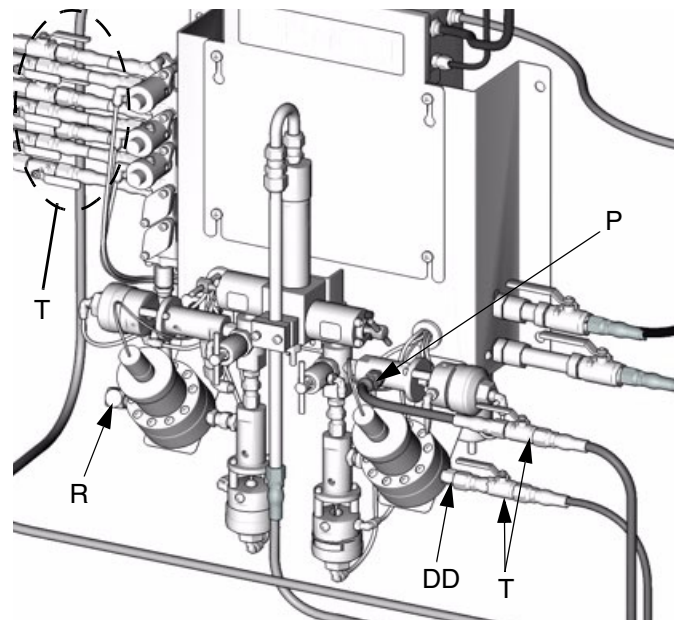

FIG. 12
To reduce the risk of injury, including fluid injection, you must install a shutoff valve (T) between each fluid supply line and the fluid manifold assembly. FIG. 12. Use the valves to shut off fluid during maintenance and service.
- a. Connect the solvent supply line (P) to the 1/4 npt(f) solvent purge valve inlet. FIG. 12.
3. Connect the component B line to the component B flow meter inlet (DD). FIG. 12.